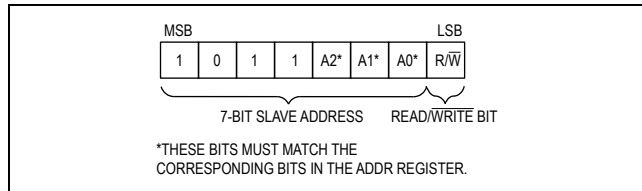

Figure 4. Slave Address Byte
The 2-wire serial interface is used to read and write the control registers of the DS1094L. The default slave address of the DS1094L is B0h (see Figure 4). Using the 3 address bits (A2, A1, and A0) in the ADDR register, the slave address can be changed to allow as many as eight DS1094Ls reside on the same 2-wire bus or to simply prevent address conflicts with other 2-wire devices. The location of the address bits within the ADDR register is shown in the *Control Registers* section. A detailed description of the 2-wire interface is found in the *2-Wire Serial Interface Description* section.
**Slave Address Byte:** The slave address byte consists of a 7-bit slave address followed by the R/W bit (see Figure 4). The slave address is the most significant 7 bits and the R/W bit is the least significant bit. The 3 address bits in the slave address (A2 to A0) permit a maximum of eight DS1094Ls to share the same 2-wire bus.